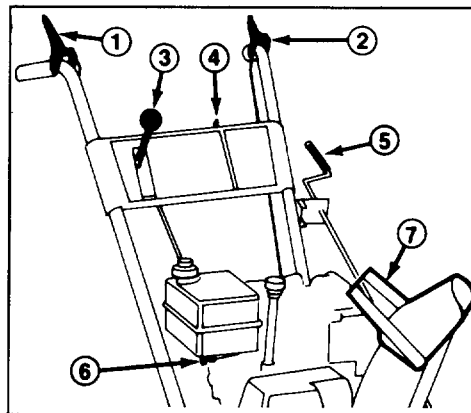
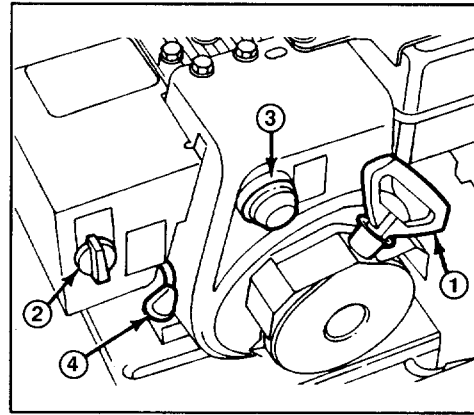
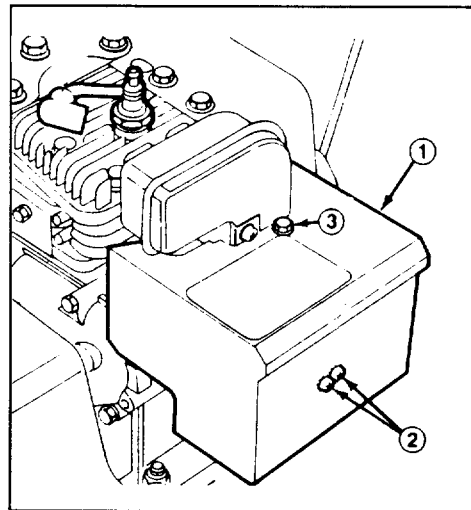

Figure 14
Figure 15
Figure 16
Auger Drive Control (Fig. 14)—Control has two positions: ENGAGE and DISENGAGE. To engage both auger and impeller, compress lever against right handgrip. To disengage, release lever.
Traction Control (Fig. 14)—To engage traction (wheel drive), lever must be compressed against left handgrip. To stop traction, release lever.
Speed Selector (Fig. 14)—The control has four positions: reverse, 1, 2 and 3. To change speeds, move gear shift to position desired. Lever will lock in notch at each speed selection. Use positions 1, 2 or 3 depending on snow conditions.
Ignition Switch (Fig. 14)—Switch has two positions: ON and OFF. Rotate key to ON position before starting engine with the recoil starter. To stop engine, rotate key to OFF.
Throttle (Fig. 15)—Moving the throttle upward increases engine speed.
Choke (Fig. 15)—Rotate choke to FULL choke position to start a cold engine. As engine warms up, move choke gradually to OFF.
Primer (Fig. 15)—Press primer to pump a small amount of gasoline into engine for improved cold weather starting.
Fuel Shut-Off Valve (Fig. 14)—Valve is located under fuel tank. Close valve to stop fuel flow from fuel tank and open valve to allow fuel to flow to the carburetor. Close valve when snowthrower is not in use.
Discharge Chute Control (Fig. 14)—Rotate discharge chute control clockwise to move discharge chute to the left and counterclockwise to move chute to the right.
Recoil Starter (Fig. 15)—Recoil starter is on back side of engine. Pull recoil starter to start engine.
(Fig. 14)—Deflector handle is on top of discharge chute, and it is used to control height of the snow stream.
Note: If engine is operated when temperature is +40° F (4° C) or higher, remove carburetor heater box (Fig. 16). However, the heater box must be reinstalled when temperature falls below +40° F (4° C). To remove heater box:
A. Remove (2) phillips screws and (1) hex head screw securing heater box in place (Fig. 16). Pull choke knob off choke rod (Fig. 15).
1. Move throttle (Fig. 15) to FAST.
2. Open fuel shut-off valve below fuel tank (Fig. 14).
3. Rotate choke (Fig. 15) to full choke position.
4. Rotate ignition key (Fig. 14) to ON.
6. Grasp recoil starter handle (Fig. 15) and pull it out slowly until positive engagement results; then pull vigorously to start the engine. Keep firm grip on starter handle and return the rope slowly.
7. After engine starts, immediately rotate choke (Fig. 15) to 3/4 position. As engine warms up, rotate choke to 1/2 position; then to OFF position. If engine falters, return choke to 1/2 position. When engine warms sufficiently, rotate choke to OFF position.
1. Release traction and auger drive controls (Fig. 14).
2. Move throttle (Fig. 15) to slow and rotate ignition key (Fig. 14) to OFF.